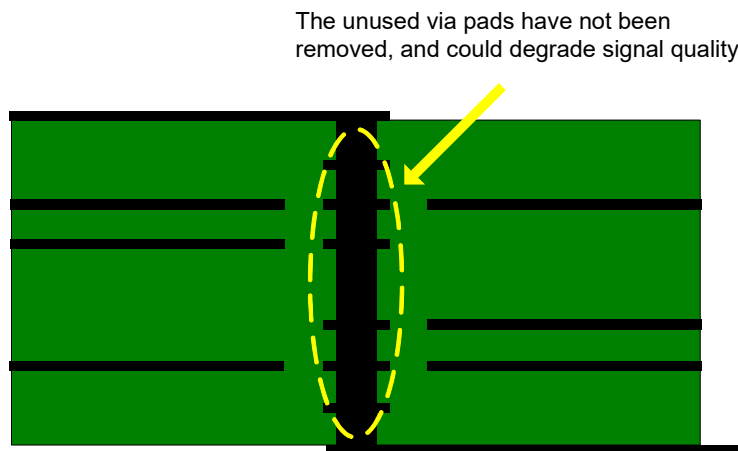

**Figure 13-18. Return Path Vias for Differential Signals - Acceptable Example**
- Each time differential traces make a layer transition (pass through a pair of signal vias), there must be at least one ground via located near each signal via. Two ground vias near each signal via is better. See Figure 13-18 and Figure 13-19.